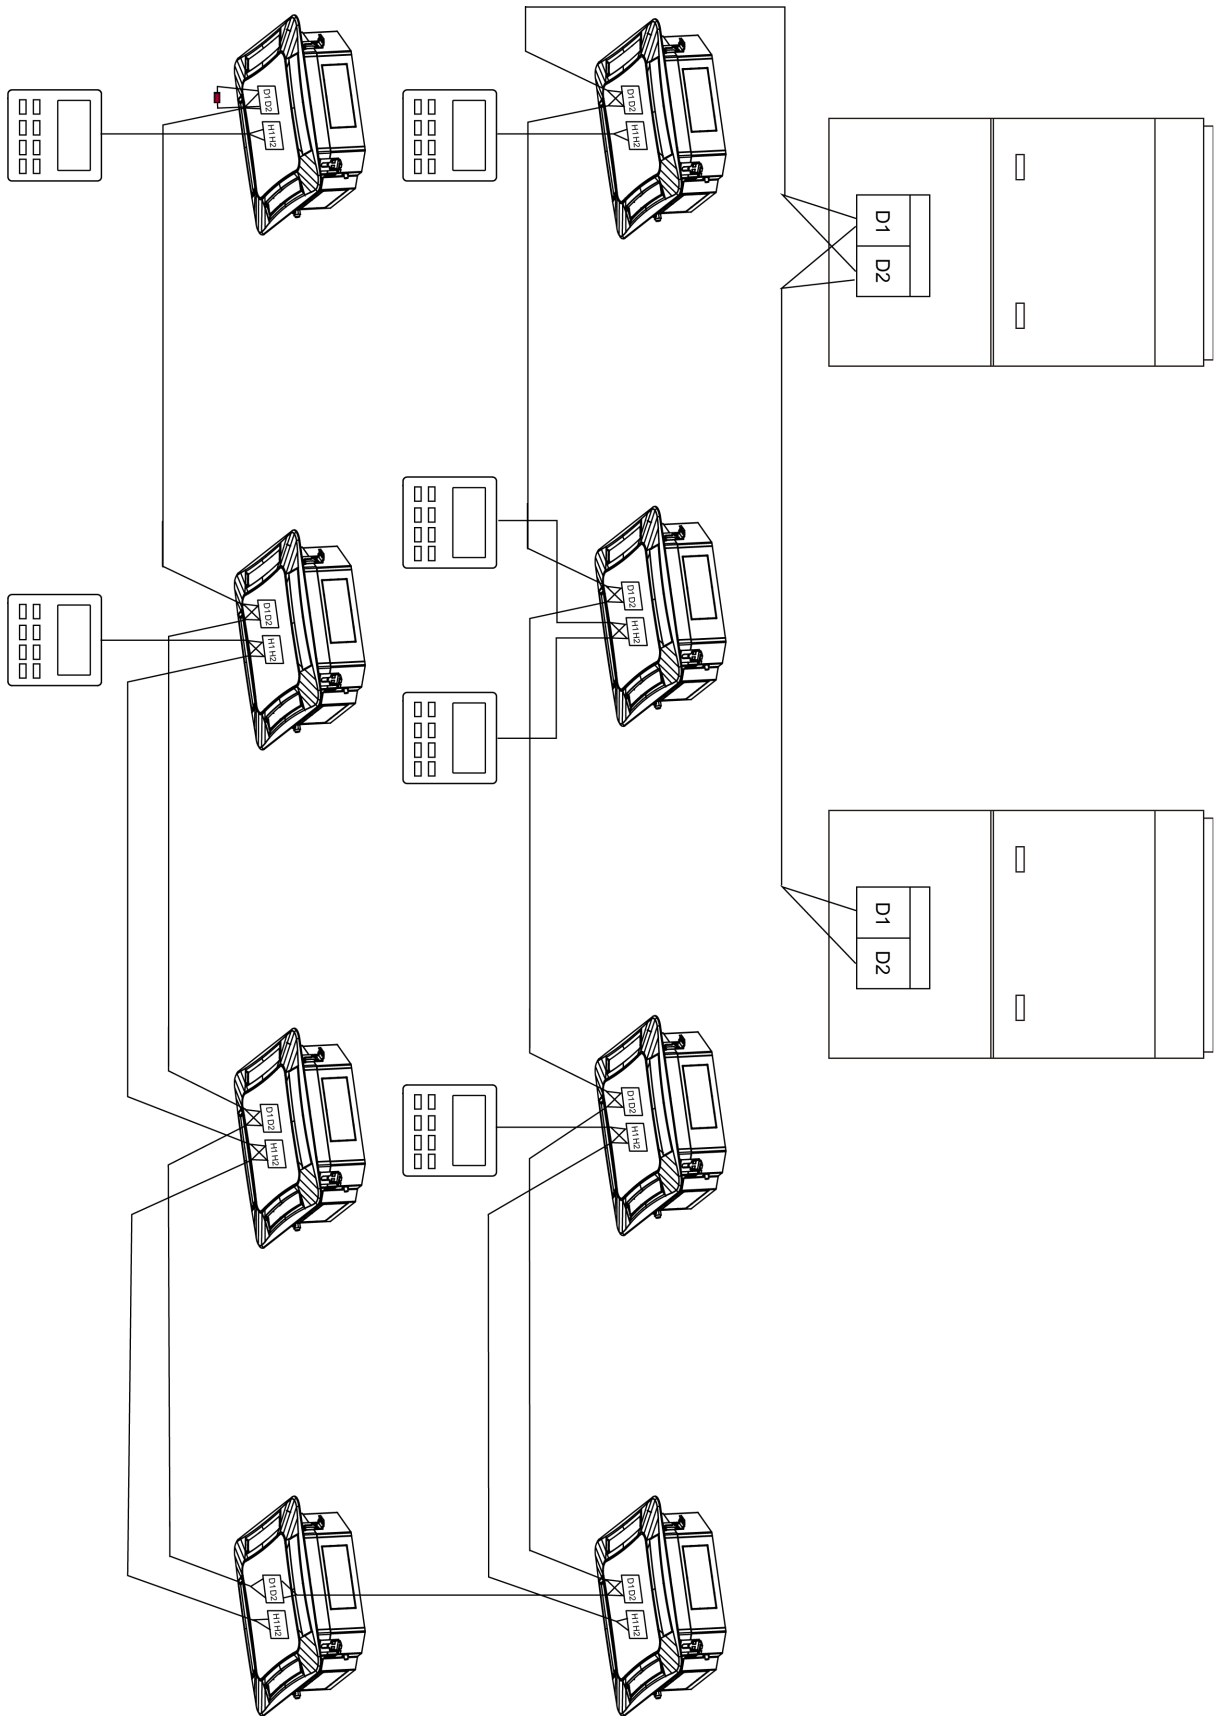

Fig.5.5
- (1) Communication wire of indoor unit and outdoor unit (or indoor unit) is connected to D1, D2.
- (2) Wired controller is connected to H1, H2.
- (3) One indoor unit can connect two wired controllers that must be set as master one and slave one.
- (4) One wired controller can control 16 indoor units in maximum at the same time. (As shown in Fig.5.5) top using it immediately and contact local service center for assistance.